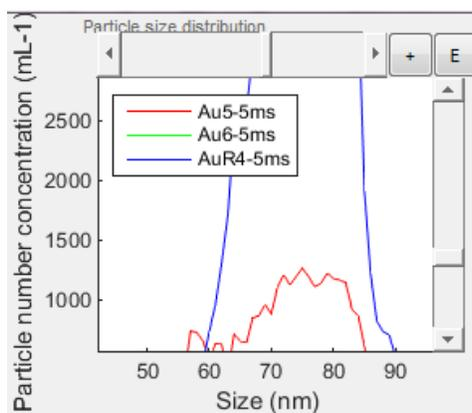

Figure 4 Different functionalities associated with all graphs in Nanocount
All graphs in Nanocount have similar functionalities as shown in Figure 4. There are many fine, but important features in most graphs in Nanocount so the user must have clear visual access to all these features by zooming in. Figure 4 shows a graph after a zoom has been initiated, because there are scroll bars visible. The two buttons in the upper right corner:
- Clicking anywhere: The picture will be zoomed in two times at the clicked position. X and/or Y Scroll bars will appear as shown in Figure 4 to navigate to other parts of the graph while keeping the same zoom level.